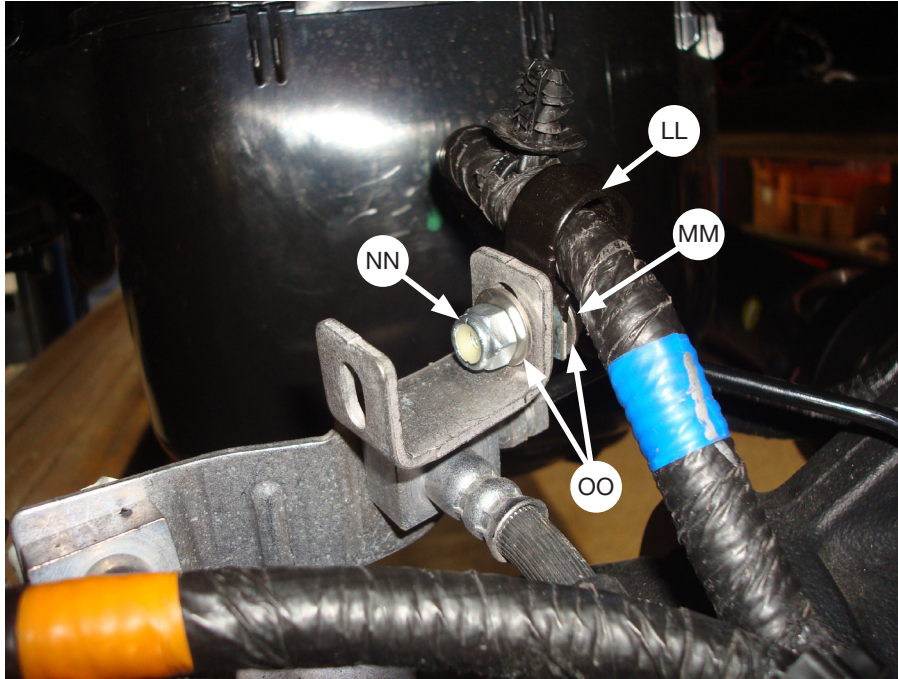

Fig. 26
5. Install the P-clamp (LL) around the right ABS harness and attach the P-clamp to the inside hole on the bracket section that was just bent (Fig. 26) using the 1/4" hex screw (MM), 2 flat washers (OO) and nylon lock nut (NN).